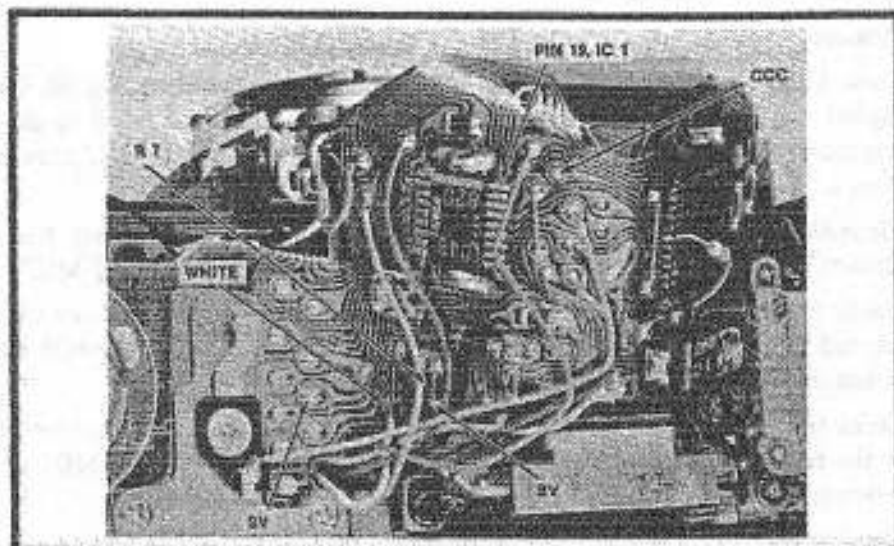

Figure 91
Check the BV signal at pin 4 of IC4 or at R7, Fig. 91. With SW1 closed, you should get a change in voltage as you change the light level striking the SPD. The BV voltage should go more positive as you decrease the light level. If there's no change, troubleshoot IC4.
Connect a 4.7K resistor between the CCC land, Fig. 91, and ground. The LED readout should change to *f*/4. If it does, IC2 is o.k.
- Cause:** check the maximum-aperture resistor. Disconnect the white wire, Fig. 91 from the flex and measure the resistance between the white wire and ground. As you push in the maximum-aperture correction pin, the resistance should go from around 4K to around 11K. If the maximum-aperture resistor checks o.k., measure the voltage at pin 2 of IC4. The voltage should go from around 1.8V to around 1.4V as you push in the maximum-aperture correction pin. If the voltage remains at 1.8V, replace IC4.
5. Check the AVO signal at pin 2. You should measure around 1.8V without a lens on the camera. When you push in the maximum-aperture correction pin, you should see the voltage decrease—around 1.5V with the maximum-aperture correction pin pushed completely in. No change—check the maximum-aperture resistor VR102 by measuring the resistance between the white wire, Fig. 91, and ground. The resistance should go from around 4K to around 11K as you push in the maximum-aperture correction pin. If the maximum-aperture resistor checks properly, but you don't get the voltage change at pin 2, replace IC4.